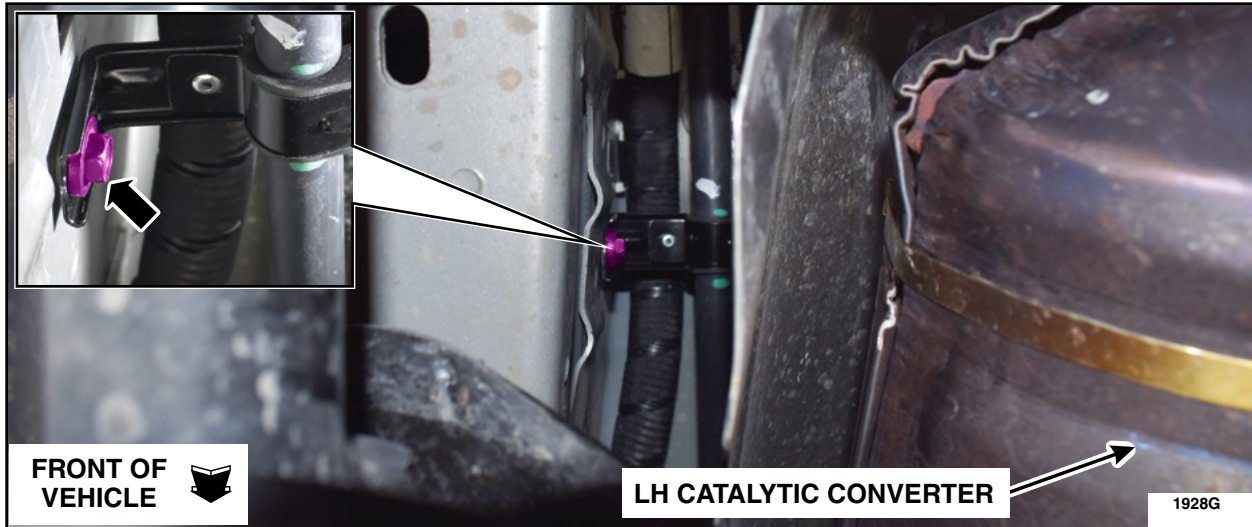

FIGURE 7
9. Remove the rear heater coolant line retainer located above the LH catalytic converter. See Figure 7.